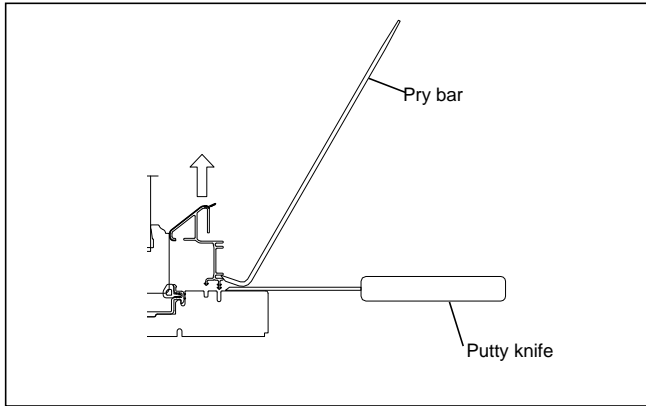

Figure 22
3. Remove the tracks by using a pry bar and putty knife to gently pry the tracks away from the frame kerf while still protecting the wood (side tracks for Awnings). See figure 22.